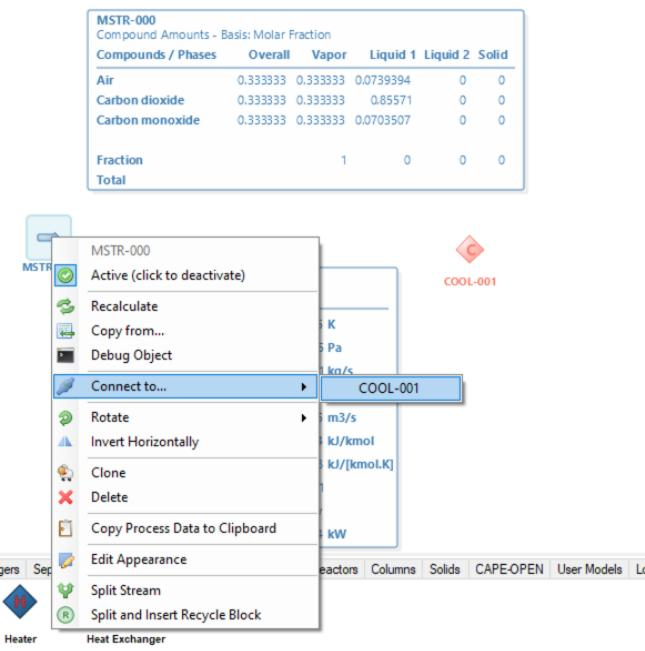

Figure 21: Selected object context menu.
- Through the context menu activated with a right mouse button click over the object (Figure 21);
Removing objects from the flowsheet The selected object can be removed from the flowsheet by pressing the DEL keyboard button or by using the context menu - "Delete" item (Figure 21).